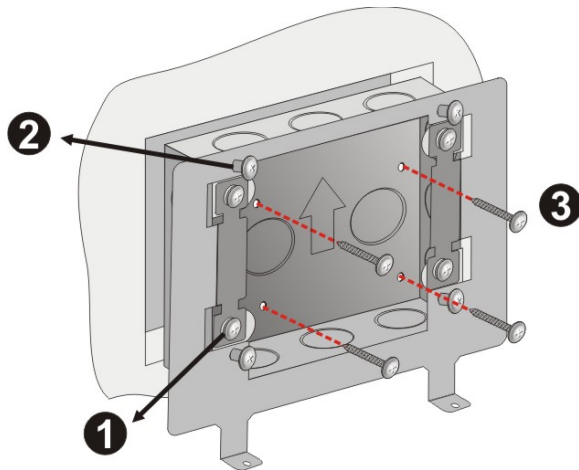

Figure 3-9: Secure Mounting Screws
- Step 3:** Secure the mounting bracket to the in-wall mounting box by inserting the retention screws into the four pilot holes and tightening them (**Figure 3-9 ①**).
- Step 4:** Insert the four mounting screws (M4*6) came with the panel PC into the four screw holes on the mounting bracket and tighten until the screw shank is secured (**Figure 3-9 ②**).
- Step 5:** Slide the in-wall mounting box into the wall. Secure the box to the wall with retention screws (**Figure 3-9 ③**).